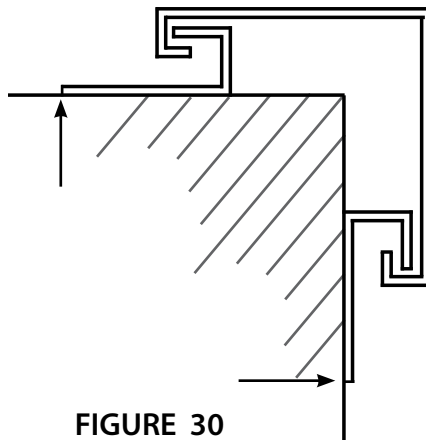

FIGURE 30
- Place the assembled corner on the wall and draw line to indicate the placement of shims for corner post (**FIG 30**).